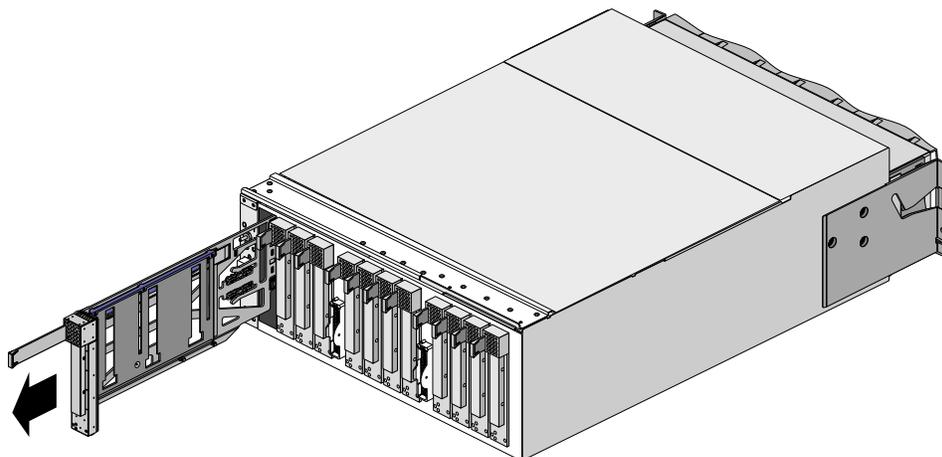

Figure 6-4 Removing a PCI Card Carrier
1. Pull the handle on the empty PCI carrier straight out to extract it from a PCI slot, as shown in Figure 6-4.